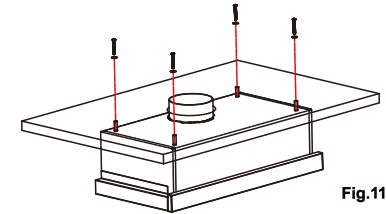

Fig.11
- Insert 4 mounting screws with 4 mounting gaskets to fix the hood. (Fig.11)